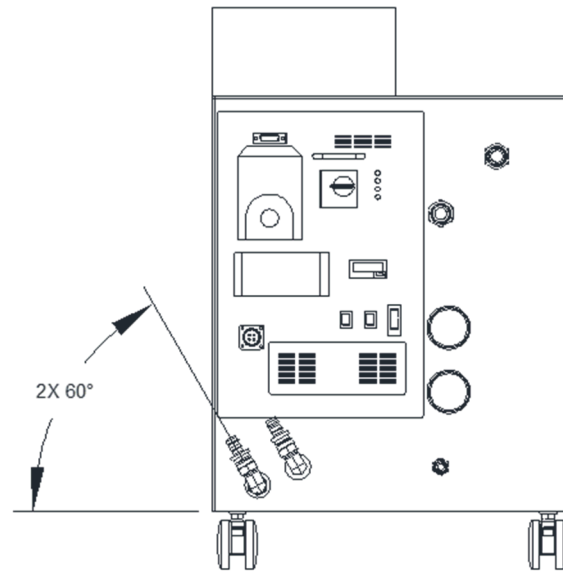

Figure 2-24: Cryogen Compressor Cooling Plumbing Orientation
3. Use a 19mm wrench to install an Elbow at the Cooling Return port on the cryogen compressor. Orient this fitting as shown in Figure 2-24. Install the Cry Cooling Return Hose (labeled **CRY PRIM RTN**) to the other end of this elbow.
4. Use a 7/8" wrench to install the Bushing at the Cooling Supply port on the cryogen compressor. Install an Elbow onto the other end of the Bushing. Orient this fitting as shown in Figure 2-24. Install the Cry Cooling Supply Hose (labeled **CRY PRIM SPY**) to the other end of this elbow.